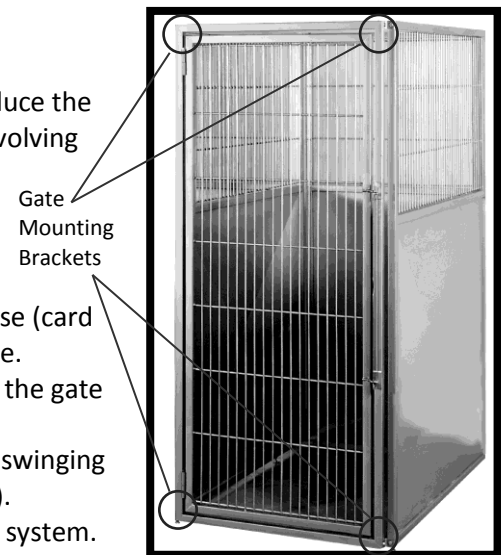

Figure 60: Swinging Gate Mounting Brackets
3. With a 1/2 in. wrench, remove the cap screws that hold the swinging gate assembly to the brackets on the pen system (Figure 60).